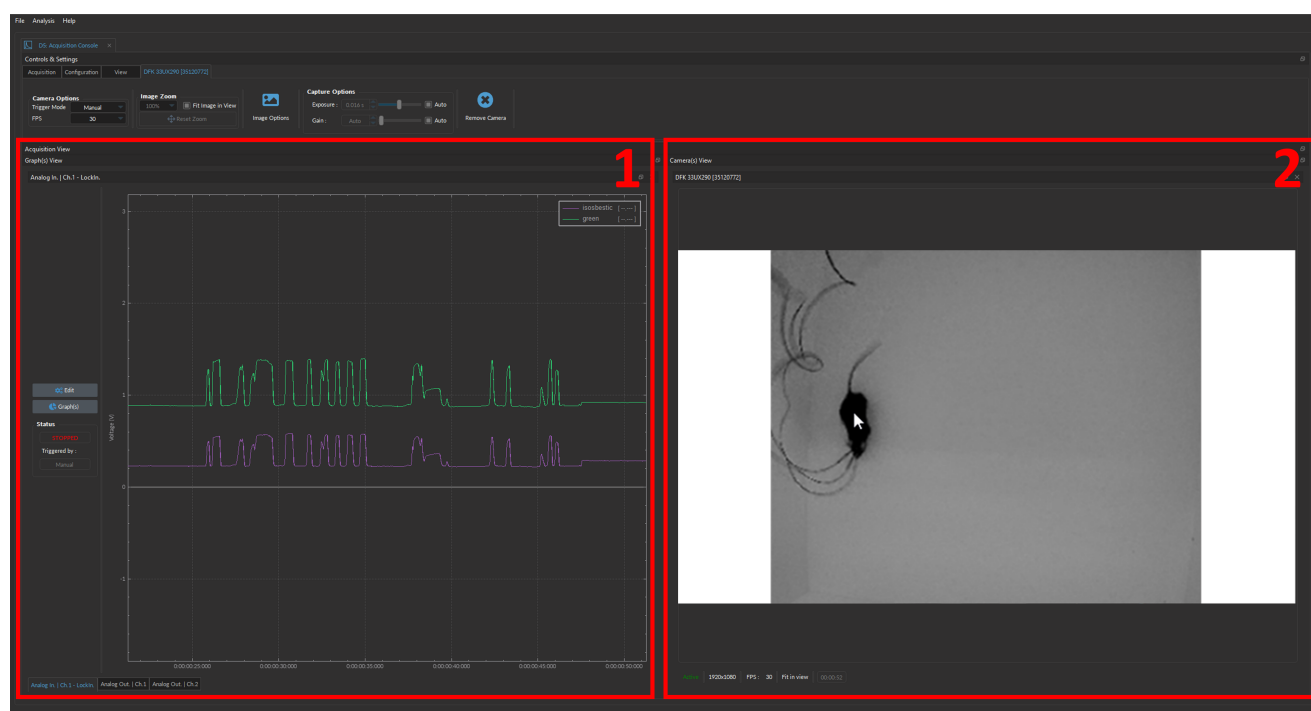

Figure 6.14: Integrating Camera into Acquisition Console module
1. **Simultaneous view** of photometry signal and the video feed (Fig. 6.14, 1 & 2 respectively). Note that while this module can support multiple camera integration, it can only view one video feed at a time.